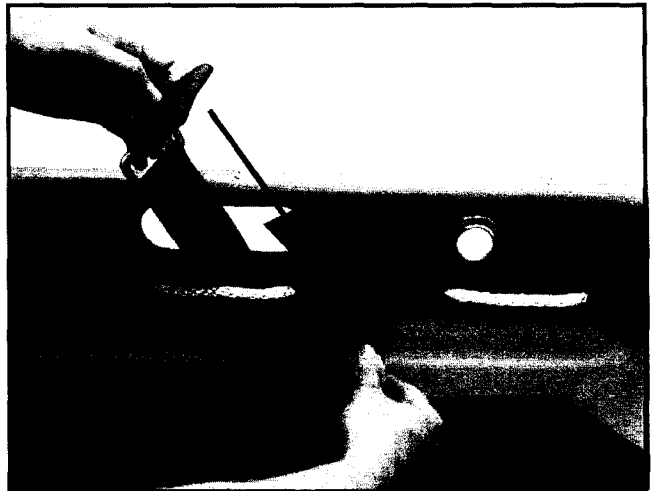

Figure 7 - Attaching a Restraint Strap
2. Pass the looped end of the strap downward between the rope and the stretcher at the selected attachment point (Figure 7).